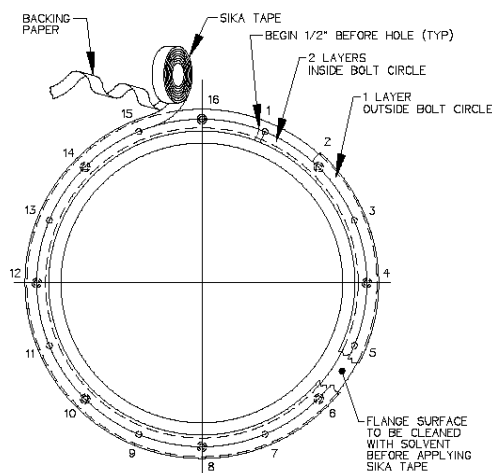

Figure 4a
2) Starting at one hole of tank flange, apply two layers of Sika Tape around the inside half of the flange. Align the outside edge of the tape with the bolt circle. Move to the adjacent hole and apply one layer of Sika Tape around the outside of the flange. Align inside of tape with the bolt circle. Remove the backing paper as you lay the adhesive on the flange. **Do not stretch Sika tape during application, it may result in a leak.** The tape should overlap at the end by approximately 1/2 inch, as shown in Fig. 4a. If a section of Sika Tape is misapplied, the bad section may be cut out and replaced. Cut away the poorly laid portion cleanly with a knife and be sure to overlap the tape at each end about 1/2 inch.